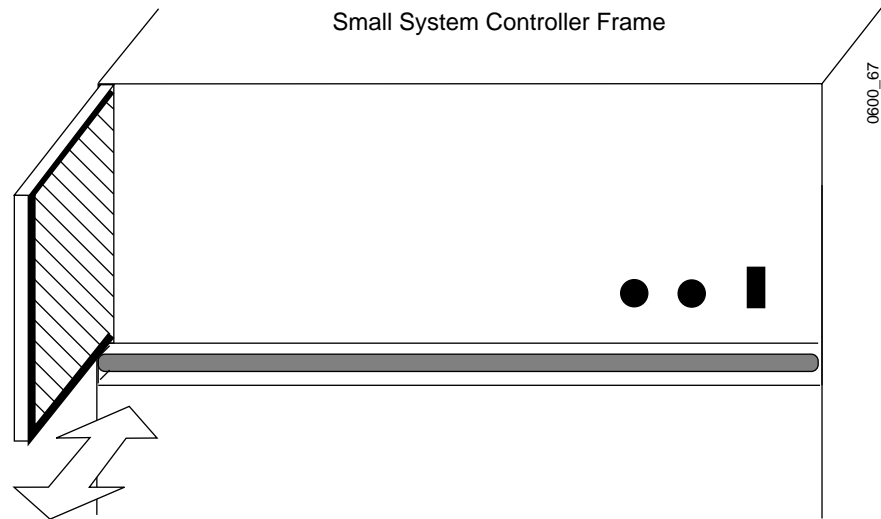

Figure 5-3. Small System Controller Filter Cleaning
1. Open the Small System Controller frame door and remove the filter on the left side of the power supply (Figure 5-3).